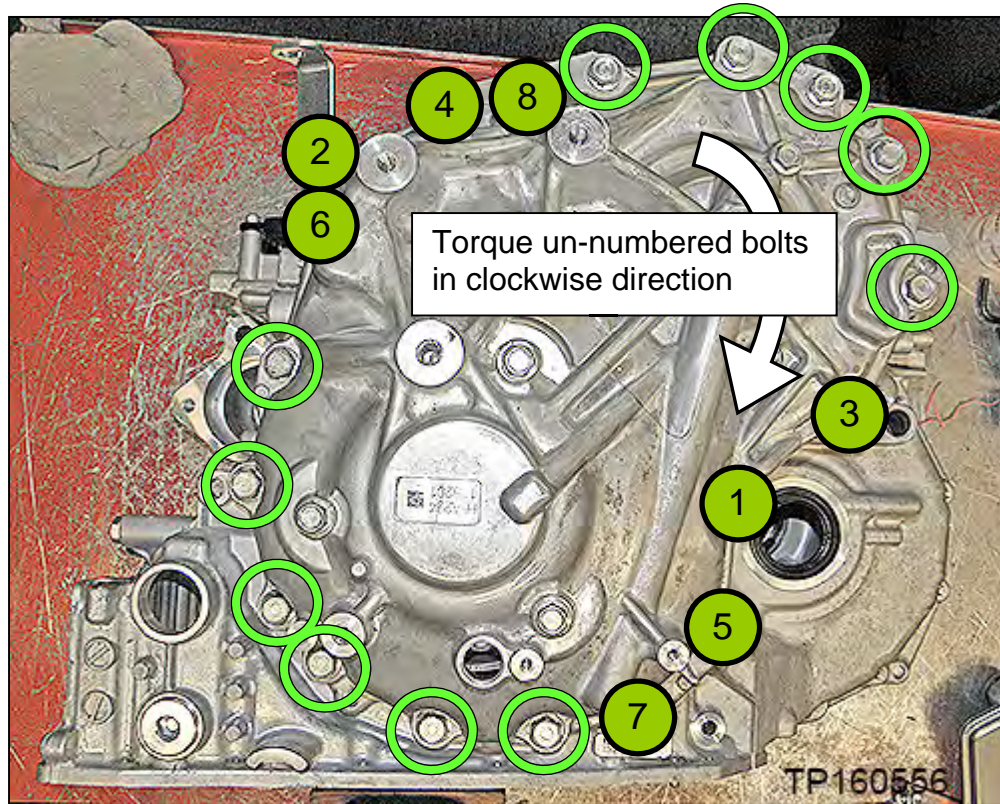

Figure 105
80. Install the new side cover bolts (Figure 105).
- Torque the first eight (8) bolts marked as ● in the sequence numbered in Figure 105 below, and then torque the rest of the bolts in a clockwise direction.